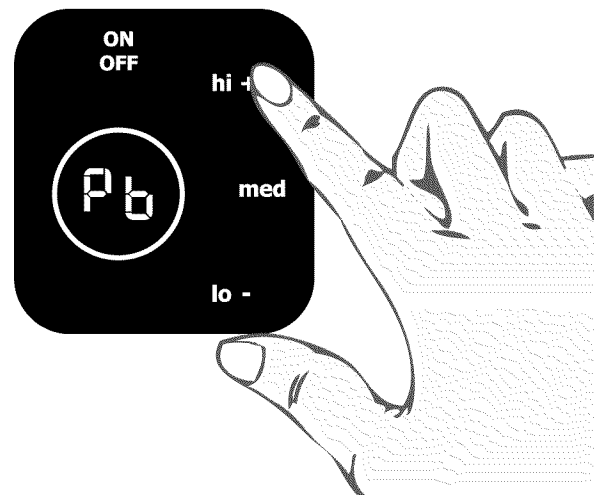

Figure 1
- Press the **"hi +"** key pad and the **PB** will be shown in the display (figure 1).